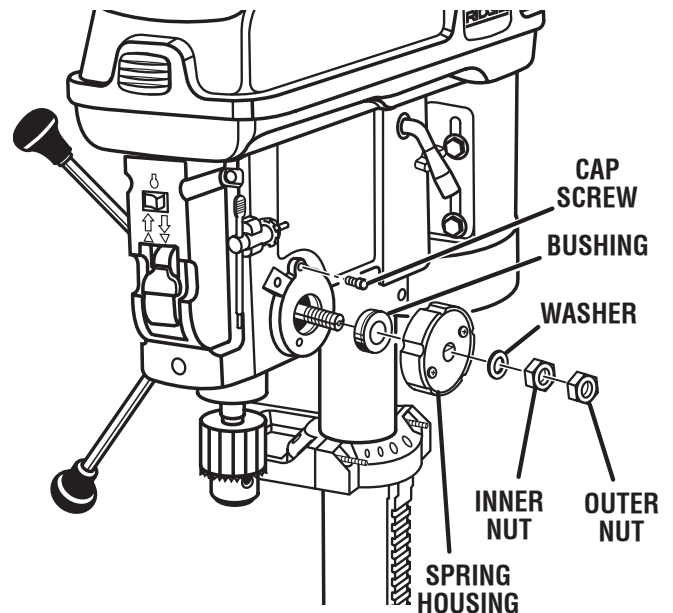

Fig. 27
- Install the spring housing on the right side of the drill press, making sure the two housing screw heads face outwards. The center tab of the spring must go in the slot on the feed handle assembly. *See Figure 27.*
- Replace washer and screw the outer and inner nuts back on the feed handle assembly as shown in figure 27. Hold the spring assembly in place and loosely assemble both nuts. See following page for quill return spring adjustment.